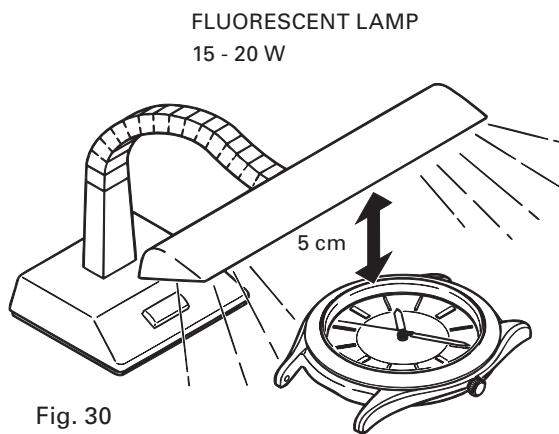

Fig. 30
- 2) Recharge the watch by placing it at a distance of 5 cm under the fluorescent lamp of 15 to 20 watts for 30 minutes (Fig. 30).